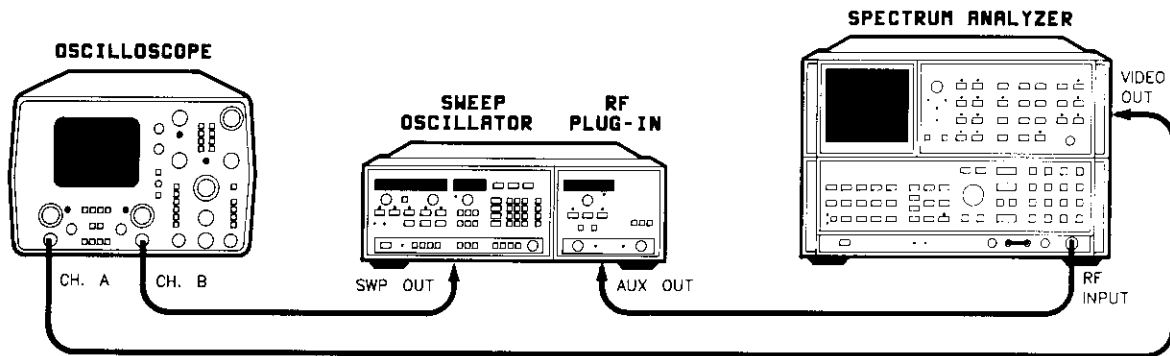

Figure 5-11. YO Retrace Compensation Test Setup
1. Connect the equipment as shown in Figure 5-11.